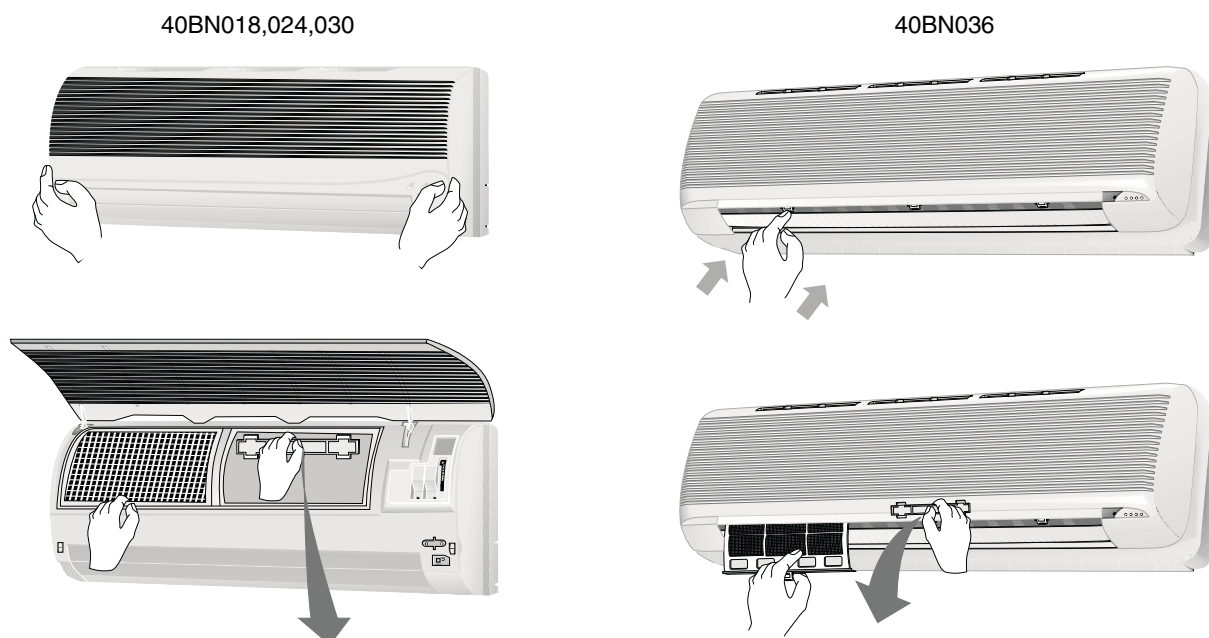

Fig. 14 — Removing Air Filters
2. Pull filters down to remove. (See Fig. 14.)